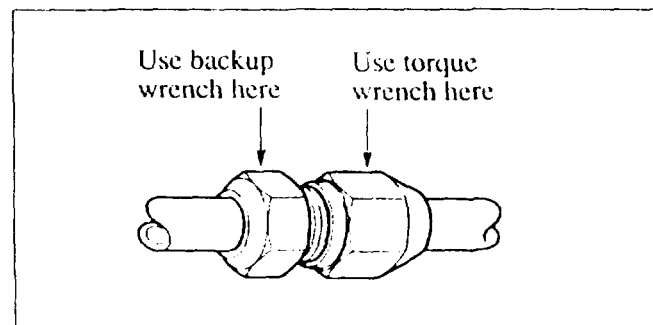

Figure 5: Final Tightening of Fitting
6. Torque the nut to the proper specification, using a backup wrench to prevent damage (figure 5).